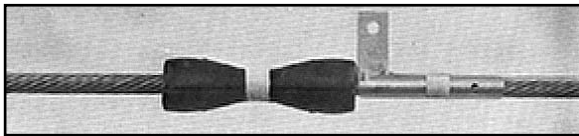

FIGURE 5
- 3.01** Align the center marks of the inserts with the center line of the applied reinforcing rods. **NOTE:** For single layer suspension applications, place a mark on the OPGW where the center of the suspension is to be located and align the center marks of the inserts with this mark. Be sure to position inserts so that the joining faces are parallel to the ground. Tape in place with a thin layer of tape. (Figure 5)
- 3.02** Position the current transfer tab with the short leg of the tab within one inch of the insert or as shown bearing lightly against the insert in Figure 5. Tape in place with a thin piece of tape. The tab may be positioned with short legs down or in any convenient position.